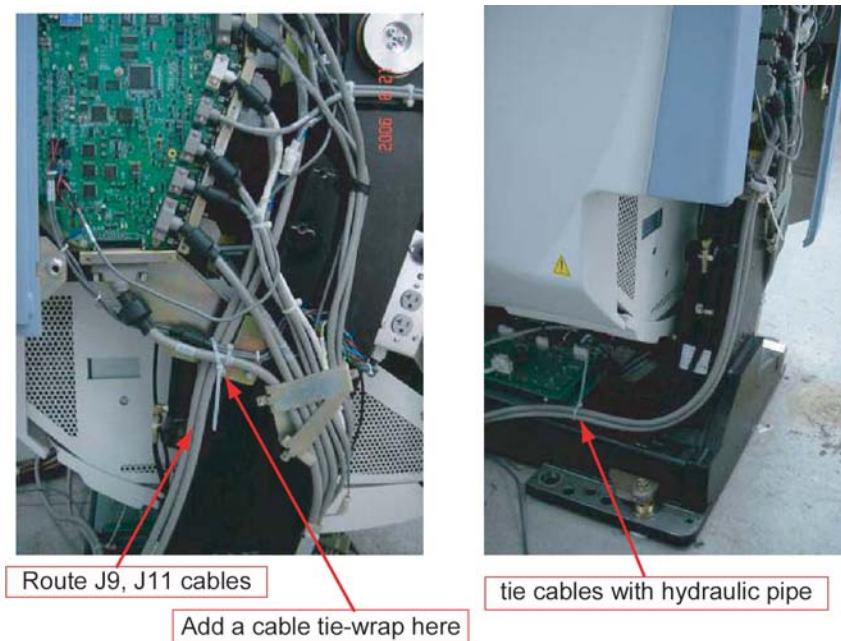

Figure 2-16 Route Cables
- Note: 4.) Route J9 and J11 cables behind all cables at this area. See Figure 2-16.